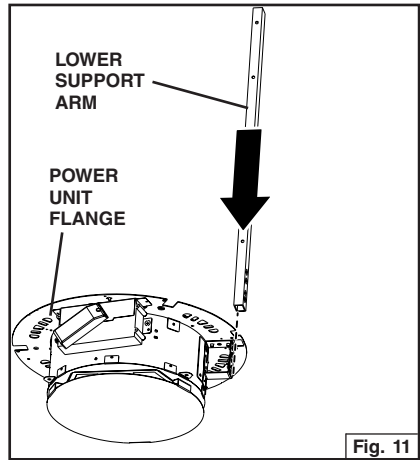

Fig. 11
5. Attach the lower support arms to each power unit. Slide the support arm through the slot in power unit flange. Fig. 11.